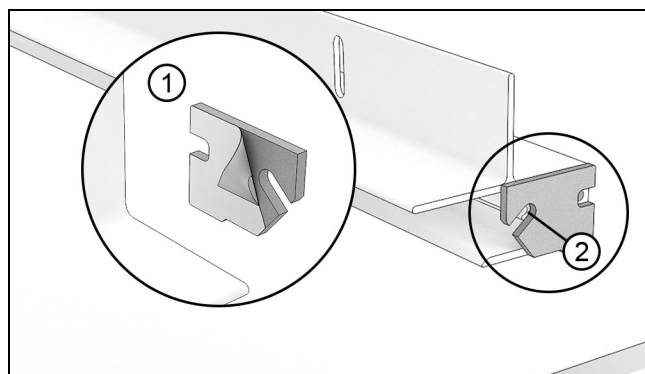

Figure 52
10. Remove the paper backing from the interlock gasket and apply it to the sill end of the interlock as shown. See Figure 52.